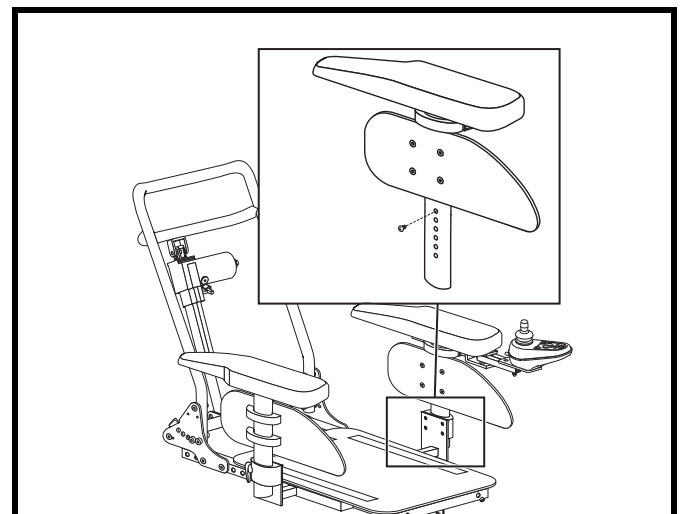

Figure 17. Armrest Bottom Height Adjustment
3. Reposition the adjustment screw to the desired height. **See figure 17.**